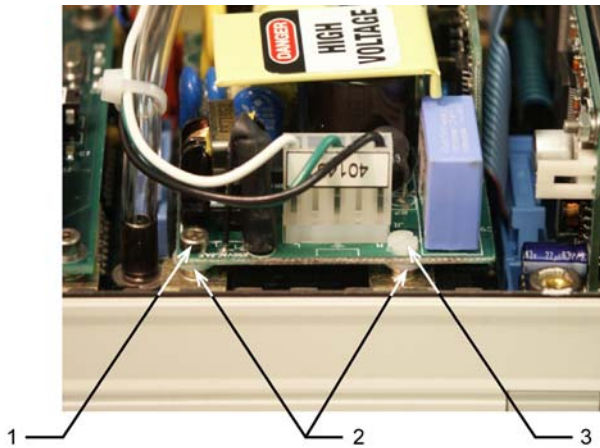

Figure 3 Left Side View
- ❶ Install the new plastic standoff into the new power supply.
- ❷ Position the power supply in the correct mounting location with the plastic standoff directly above the mounting hole on the main board.
- ❸ Press down on the power supply to captivate the plastic standoff to the main board.
- ❹ Install a nylon washer between the power supply and the metal mounting tab, two (2) places, (see Figure 3).
- ❺ Install the new nylon screw and stainless steel screw and lockwasher at the correct locations (see Figure 3).